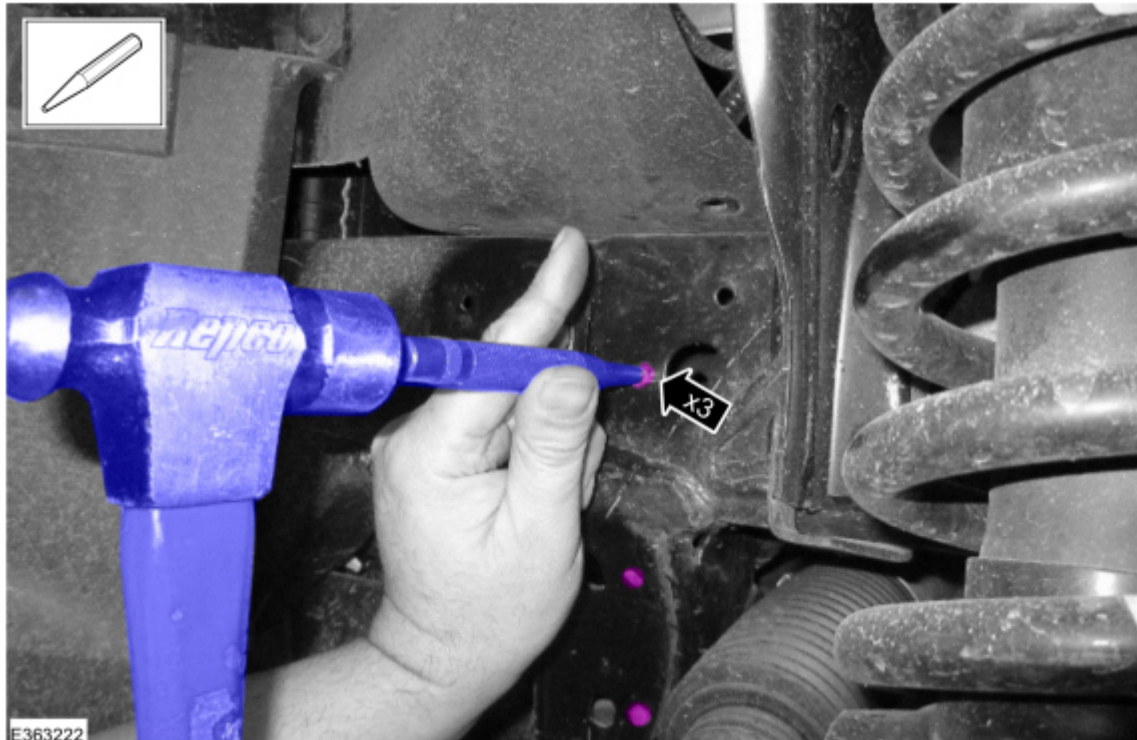

Figure 5
7. Using a centre punch, mark the centre of each paint spot. (Figure 5)